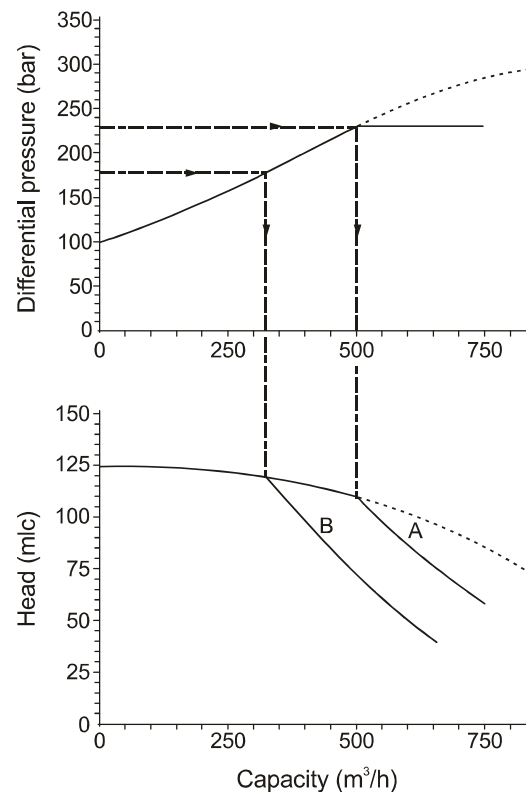

Fig. 1
If cargo back pressure is reduced, capacity and head will follow curve (B) on fig.1, approx. parallel to the drop curve (A) for fresh water.